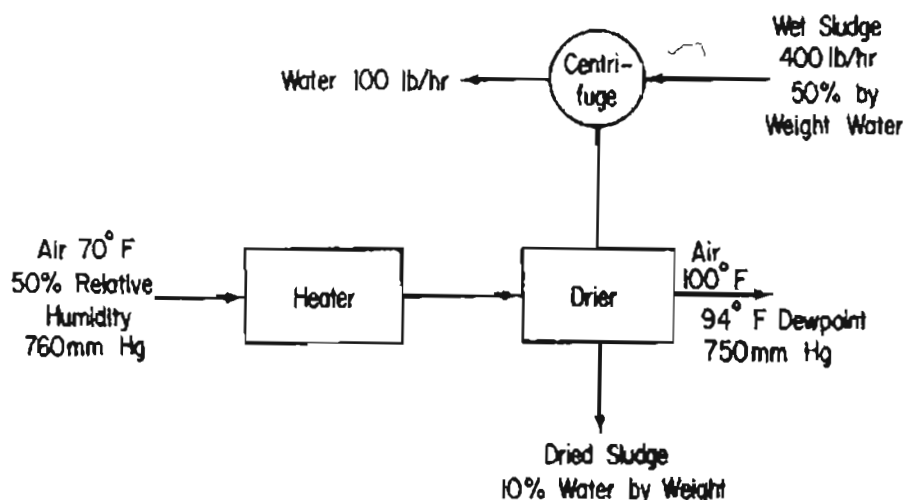

Figure P18.24
***18.24** A wet sewage sludge contains 50% by weight of water. A centrifuging step removes water at a rate of 100 lb/hr. The sludge is dried further by air. Use the data in Figure P18.24 to determine how much moist air (in cubic feet per hour) is required for the process shown.